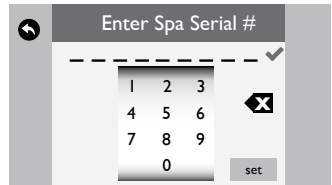

Figure 10.2c
2. Input the 9-digit serial number, Figure 10.2c.